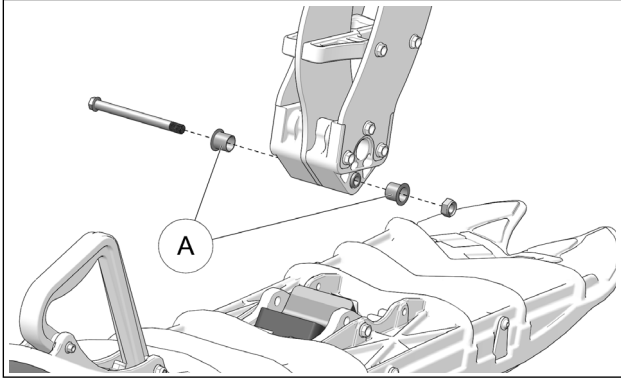

Figure 65
Verify play and extent of wear on the nylon bushings (A) guiding the assembly bolt that secures the ski to the spindle. If there is abnormal play in the bushings, replace them. See Figure 65.